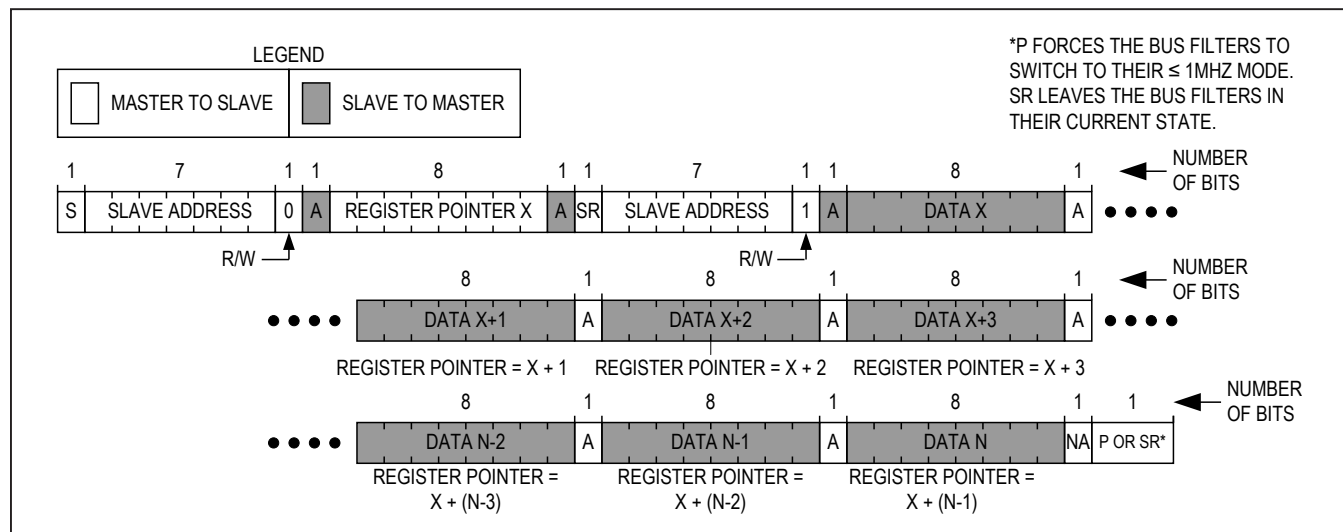

Figure 10. Reading Continuously from Sequential Registers X to N
Figure 10 shows the protocol for reading from sequential registers. This protocol is similar to the read byte protocol except the master issues an acknowledge to signal the slave that it wants more data: when the master has all the data it requires, it issues a not acknowledge (nA) and a stop (P) to end the transmission.